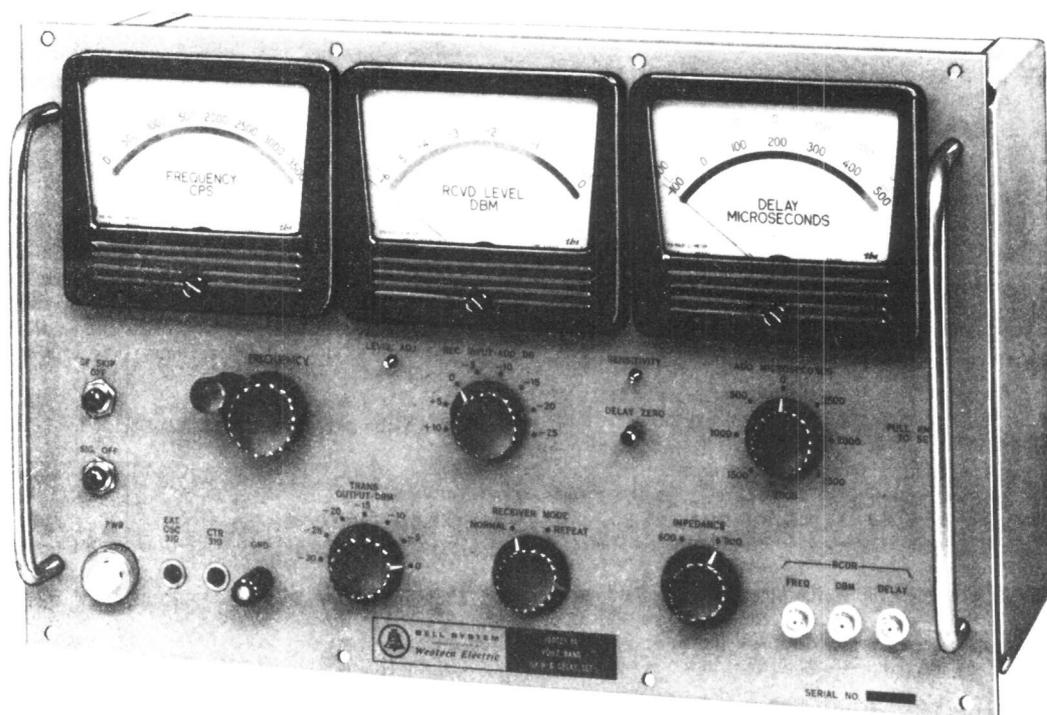

Fig. 2—25BR Rack-mounted Set
2.05 25BR Set Only: The 25BR set (see Fig. 2) is arranged to be rack mounted. With available brackets (ED-99987-50), it can be mounted in any rack 19 inches or larger. The 25BR set does not have dialing and holding features or facilities for interchanging the transmitting and